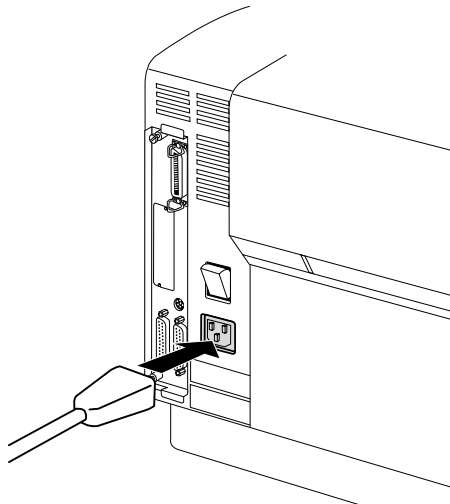

Fig. 2.34 *Connect the Power Cord*
1. Connect one end of the power cord to the rear of the printer (fig. 2.34).